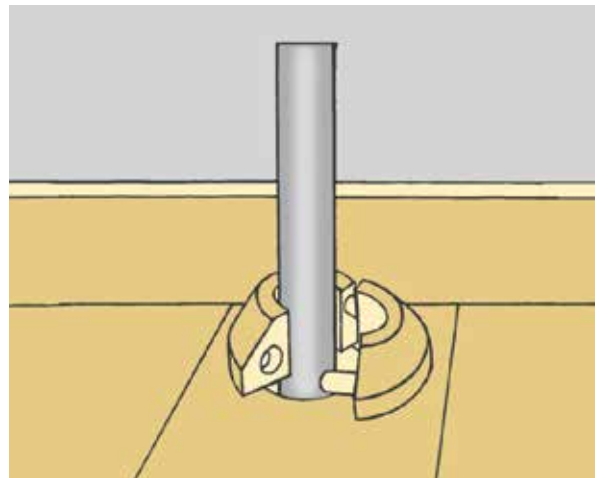

Fig. 8.1
1. Pipe collars are used to conceal movement joints at radiator pipes. The halves of the pipe collars are glued together around the pipe (Fig. 8.1).